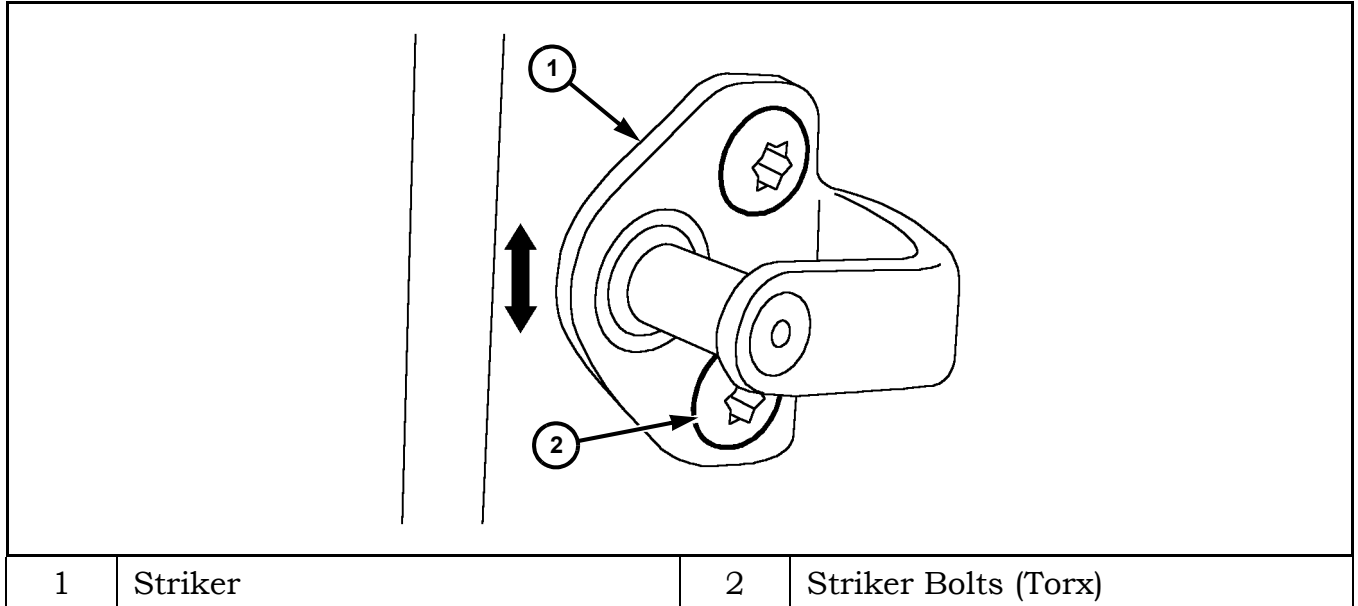

Figure 8 Latch Striker
9. Loosen latch striker bolts and adjust to the modified door position by moving striker vertically (arrow). See Figure 8.